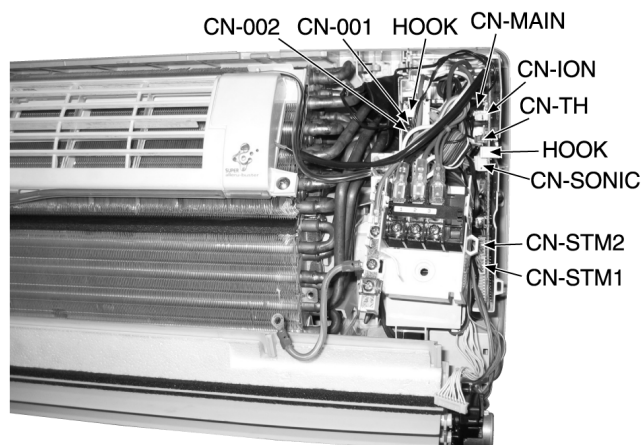

Fig. 4
- Release the CN-ION connector. (Fig. 4)
- Release the CN-SONIC connector. (Fig. 4)
- Release the CN-TH connector. (Fig. 4)
- Release the CN-MAIN connector. (Fig. 4)
- Release the CN-STM1 connector. (Fig. 4)
- Release the CN-STM2 connector. (Fig. 4)
- Release the hook that hold the Main Electronic Controller. (Fig. 4)
- Release the CN-001 connector. (Fig. 4)
- Release the CN-002 connector. (Fig. 4)
- Release the hook that hold the Power Electronic Controller. (Fig. 4)